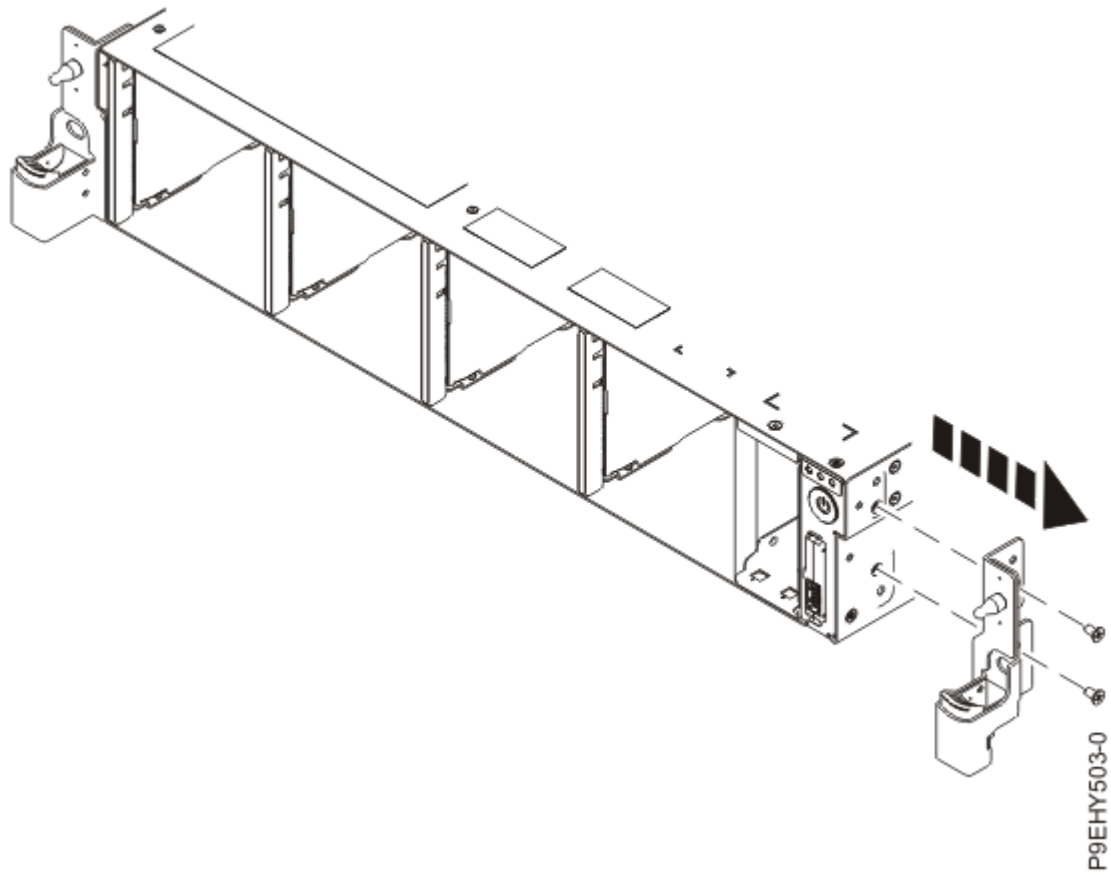

Figure 169. Removing the rack installation support
6. Remove the rack installation support from the side of the system as shown in Figure 169 on page 186.